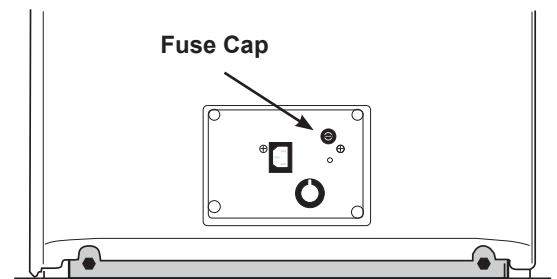

Figure 40.
3. Push the fuse holder cap in with a flat screwdriver and rotate 1/4 turn counterclockwise to remove cap and fuse (Figure 40).